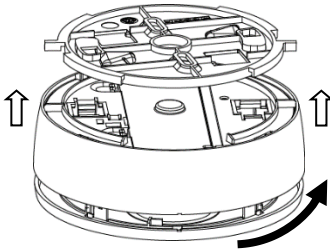

Figure 10
7. Connect the detector to the mounting bracket and rotate the detector clockwise to secure (*see Figure 10*).